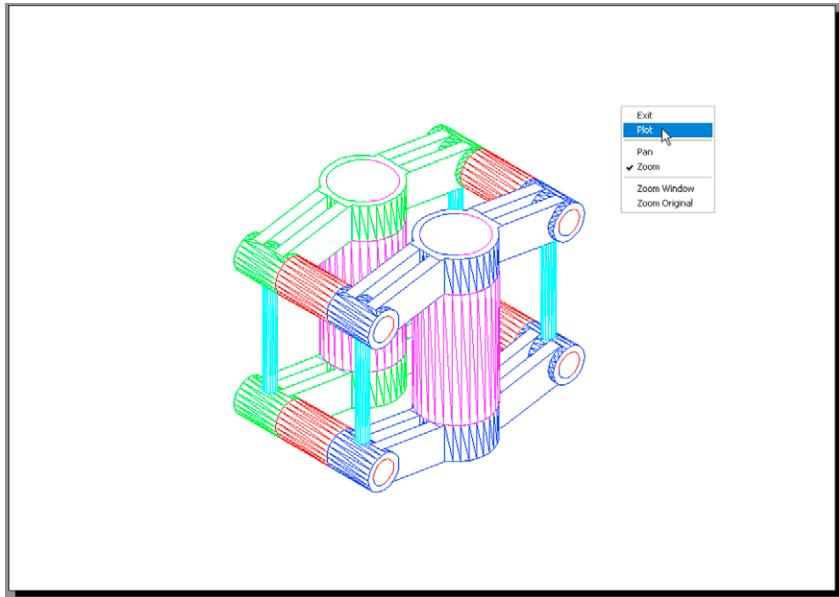

Fig. 19.12 Third example – Printing/Plotting
### Third example – Printing/Plotting (Fig. 19.12)
4. If satisfied with the preview (Fig. 19.12), right-click and click on **Plot** in the menu which appears. The drawing plots.
### Polygonal viewports (Fig. 19.12)